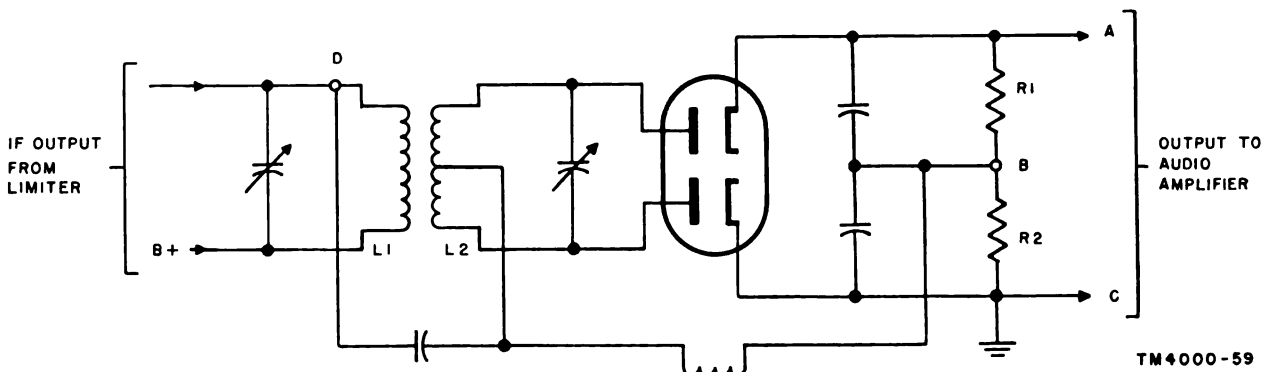

Figure 70. Discriminator, showing test points.
c. Begin signal substitution by feeding an unmodulated signal from a signal generator to the grid of the limiter stage. Set a vtvm to indicate dc volts, with the needle at zero center. Connect the vtvm across the discriminator load resistors; these are R1 and R2 in figure 70 and the connection points are A and C. Set the output frequency of the signal generator to the resting frequency of the receiver (the intermediate frequency); the vtvm should read zero. Alternately tune the signal generator above and below the resting frequency. If the vtvm swings to one side and then the other of zero as the frequency is varied, the limiter and the discriminator are operating. (At the resting frequency there is no output from the discriminator.)
e. Connect the signal generator to the input of the discriminator and vary its frequency as described in c above. In figure 70 the signal is applied between point D and ground. If the voltage indication on the vtvm does not follow the frequency variations, the discriminator or coil L1 is defective.